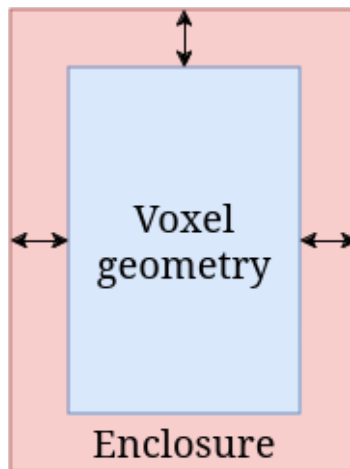

Figure 12: Voxelized geometry enclosure schema
- **enclosure-margin**: This parameter defines the margin, in cm, of a homogeneous enclosure containing the voxelized geometry (Figure 12). It is intended to take into account border effects, such as backscatter.